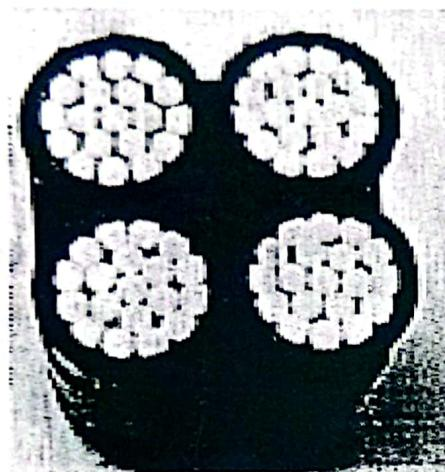

Figure 1 : Fully Supported Cable
- Fully supported (Refer figure 1) - where all the equal-sized phase and neutral cores share the mechanical load.